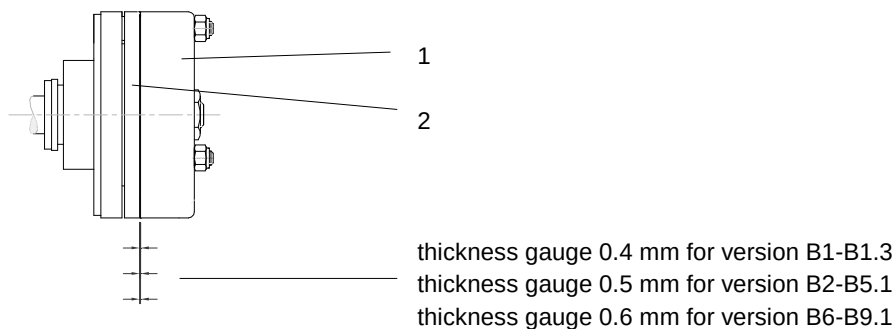

figure 28: adjusting the DC disk brake
1. Put thickness gauge between magnetic coil (1) and anchor plate (2) (do not insert more than 10 mm).
2. Tighten the 3 self locking nuts until the air gap between magnetic coil and anchor plate reaches the dimension as defined in figure 28.